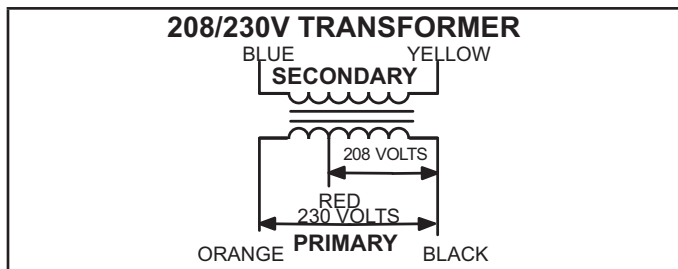

FIGURE 3
All use a single line voltage to 24VAC transformer mounted in the control box. Transformer supplies power to control circuits in the unit. The transformer is rated at 92VA and is protected by a 6 amp circuit breaker (CB8). The 208/230 (Y) voltage transformers use primary voltage taps as shown in FIGURE 3, while 460 (G) and 575 (J) voltage transformers use a single primary voltage tap.
T43 is a single line voltage to 24VAC and ties into T1. See unit diagram. T43 is mounted in the control box. The transformer supplies power to control circuits (through T1). The transformer is rated at 70VA and is protected by a 3.5 amp circuit breaker (CB31). The 208/230 (Y) voltage transformers use primary voltage taps as shown in figure 3, while 460 (G) and 575 (J) voltage transformers use a single primary voltage tap.